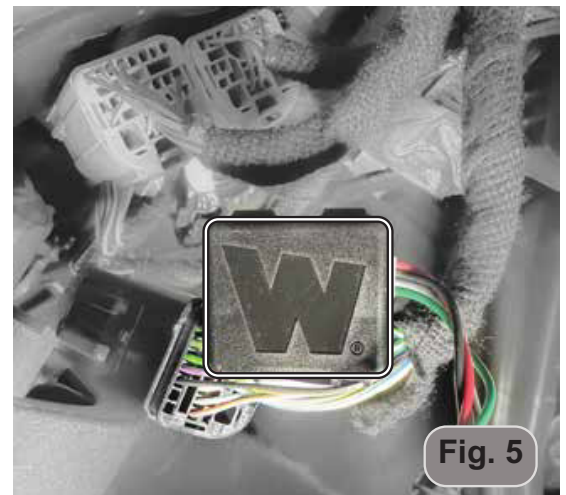

Fig. 5
4. Ensure that the Sensor Box is securely closed, with both wires in their respective channels (Fig. 5).